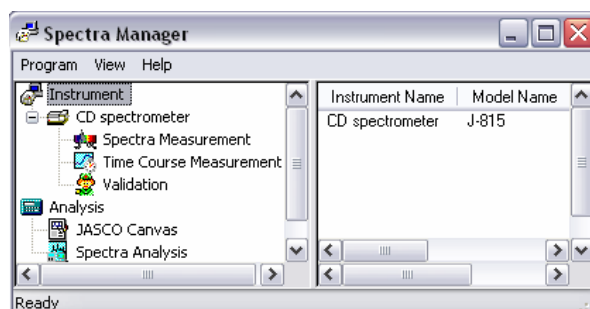

Figure. 2.1 [Spectra Manager] window
The Spectra Manager window appears (see Fig. 2.1).
**Note:** If multiple instruments are controlled by one PC, the J-800 icon may not be displayed in the [Spectra Manager] window. In this case, follow step (3) below.
- (3) Scroll down the [Instrument] window of Fig. 2.1 using the scroll bar.